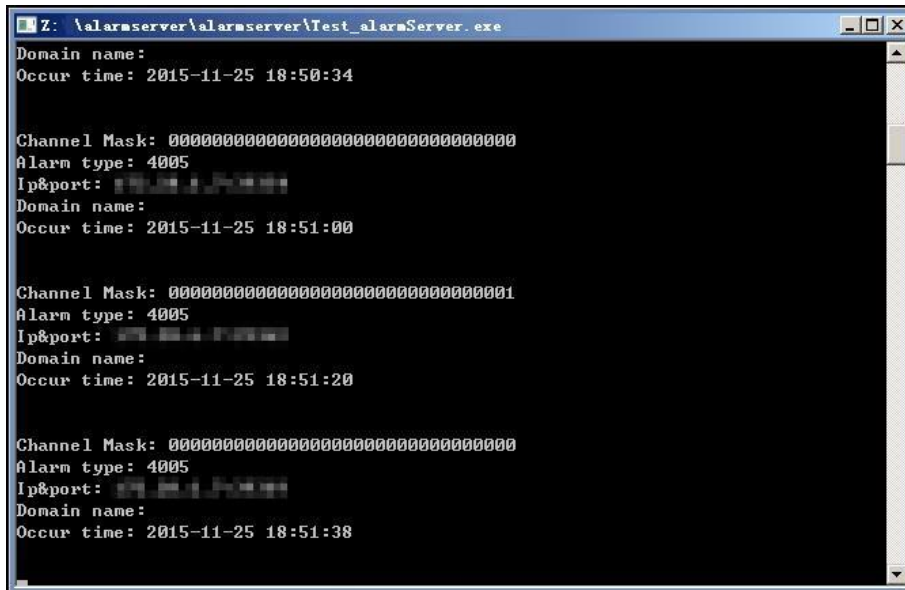

Figure 3-47
Step 3 Click "OK" to complete configuration. Open the client at alarm server, and the client will receive alarms, as shown in Figure 3-47.